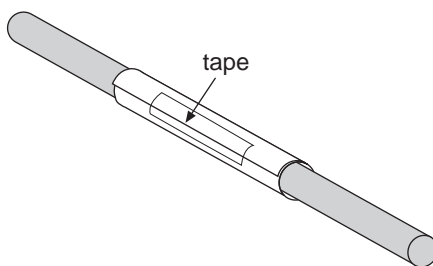

Figure 2: Taping the Post-it Note
2. Use a small piece of tape to reinforce the seam. (See Figure 2.)